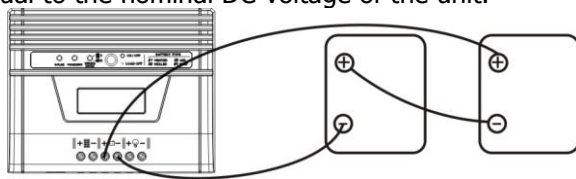

Fig. 5
1) Multiple batteries in series connection (Refer to Fig. 5): All batteries must be equal in voltage and amp hour capacity. The sum of their voltages must be equal to the nominal DC Voltage of the unit.